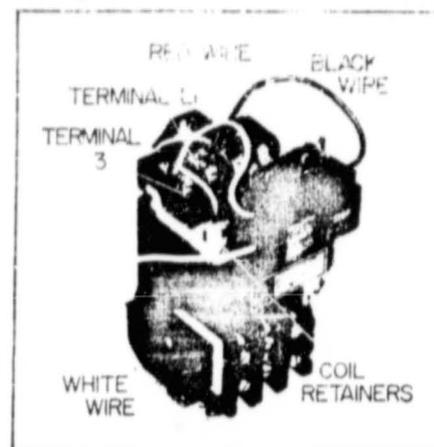

Figure 2 - CR205X120N installed
3. Begin disassembly of contactor by pressing slightly on coil and pulling up on coil retainers; motion also being away from coil (see Figure 2).
9. Connect black wire to "L1". Make connection at control terminal screw provided (see Figure 2).